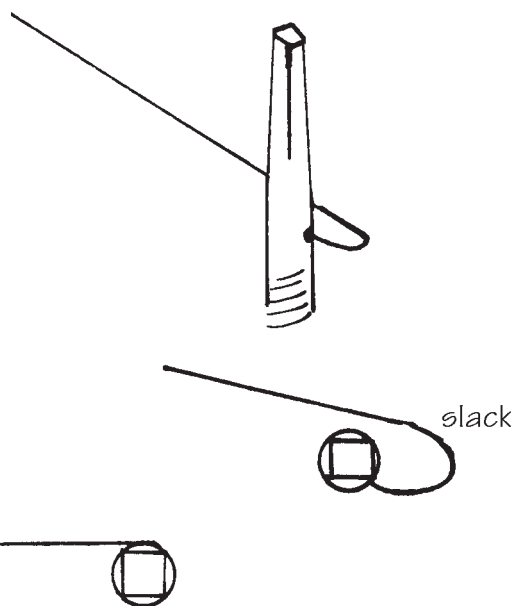

FIG. 6
- ___6. Use the tuning wrench to turn the pin clockwise about one-half turn before putting tension on the wire. (fig. 6)
- ___7. Pull on the wire to “set” it in the pin. This puts a sharp kink in the wire where it enters the tiny hole. If the wire jumps out when you pull, you may need to clip off the kinked end and try again. (fig. 6)
- ___8. Keeping tension on the wire at all times, turn the pin clockwise until you take up all the slack. You should be able to make about two or three complete turns of the pin before the wire is tight. (fig. 6)